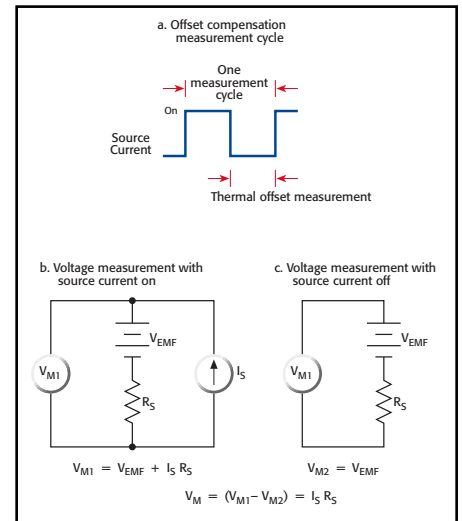

Figure 5a: Subtracting Thermoelectric EMFs with Offset Compensation
- 1) **Offset Compensation Technique (Figure 5a)** applies a source current to the resistance being measured only for part of the measurement cycle.